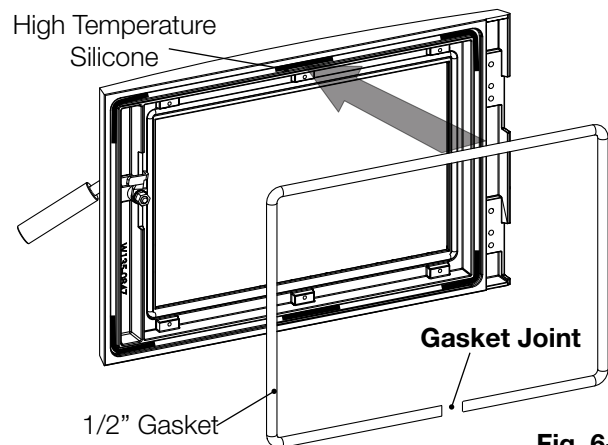

Fig. 6-4
2. Apply **high temperature silicone** (not supplied) in the gasket groove as illustrated (**Fig. 6-4**).
3. Cut the 1/2” gasket (supplied) to size and place on top of the silicone. Press the gasket down firmly to ensure it stays in place. **Ensure the gasket joint is at the bottom as illustrated (Fig. 6-4).**